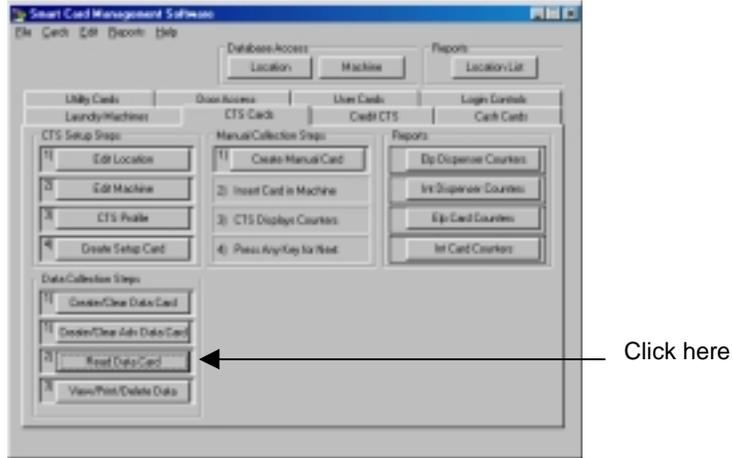

Figure 9.16 Reading a Cash CTS Data Collection Card
2. In the Cash CTS Card tab, click the Read Data Card button (Figure 9.16).